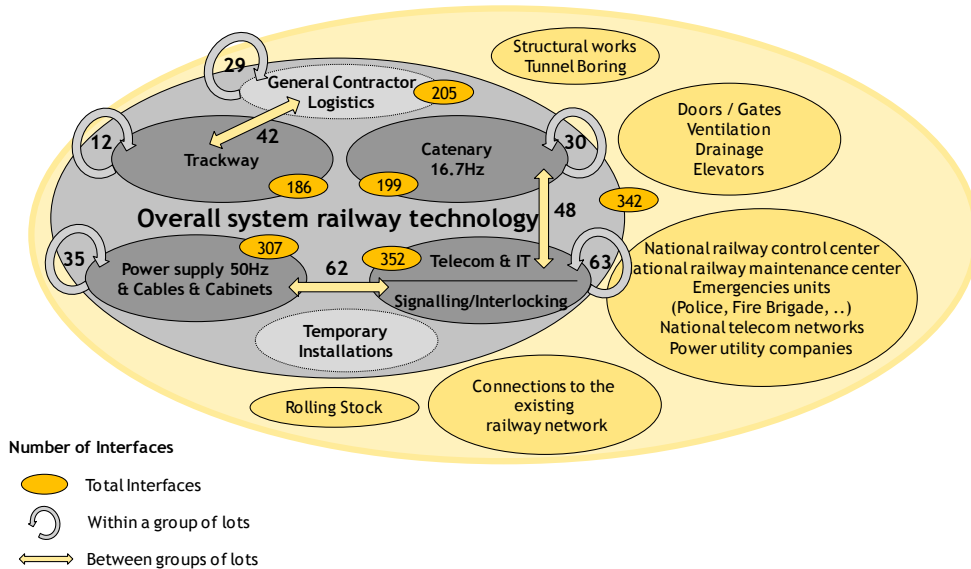

Figure 2. Identified and documented interfaces during offering phase
The major functional interfaces are shown in Figure 2. The numbers represent the interfaces identified, clearly defined and documented during the offering phase, grouped into total number of interfaces within a group of lots, between the group of lots and the total number of each discipline, including the interfaces (342) outside the scope of the Railways Technology.